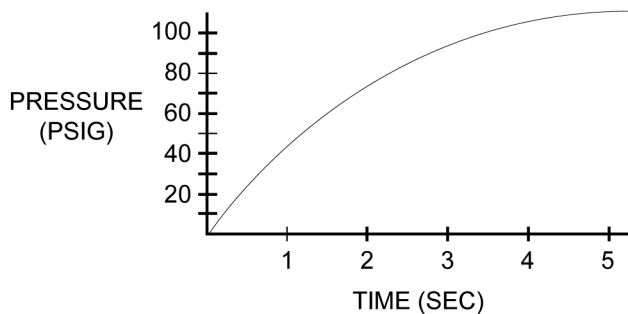

Figure 11
- 3.2.5 Repeat the above procedure while adjusting the flow control valve (11) to supply a pressure rate of approximately 20 psig/sec. (1.4 bar/sec.). Due to the non-linearity of the pressure-time curve (See **Figure 11**), it will be easier to use a reduced value to set the flow control valve. For example, if the tank pressure is 100 psig (6.8 bar), to obtain a flow rate of 20 psig/sec. (1.4 bar/sec.), time the pressure build up to 80 psig (5.4 bar) and adjust the flow control valve to deliver this pressure in 4 seconds, which, for all practical purposes, would equate to the desired 20 psig/sec. (1.4 bar/sec.).